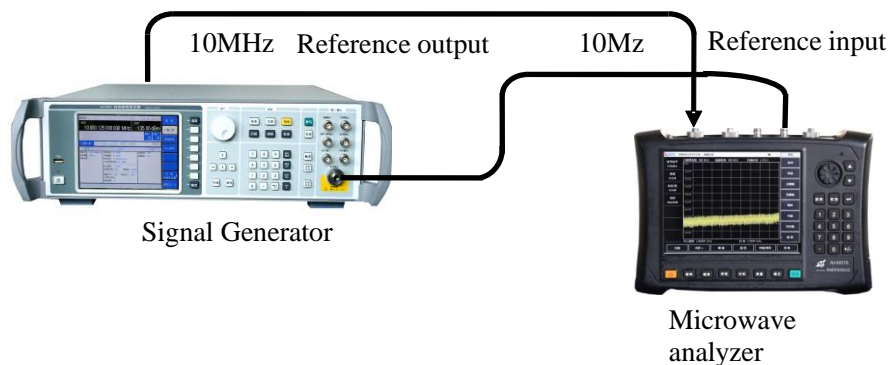

Figure 5-14 Improving the frequency measurement accuracy system connection
- Connect the output of the signal generator to the spectrum input port of the microwave analyzer via a cable, and connect the 10MHz reference signal output of the signal generator to the external reference input of the microwave analyzer with a BNC cable as shown in Figure 5-14: